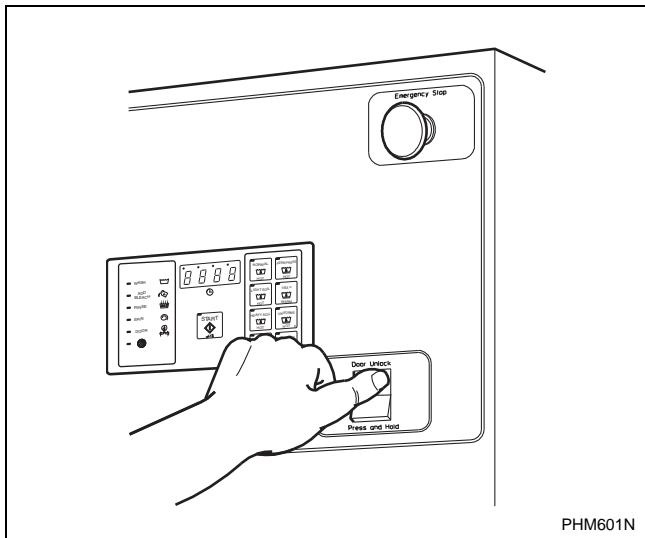

Figure 28
- Use left hand to press and hold the door unlock button located on the lower right front of the control panel. Refer to *Figure 28*.